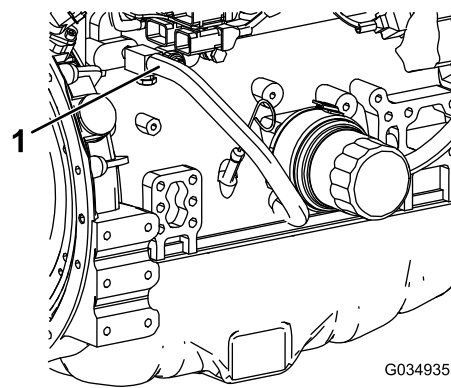

Figure 123
7. Remove the coolant hose from the engine-oil cooler (Figure 123).